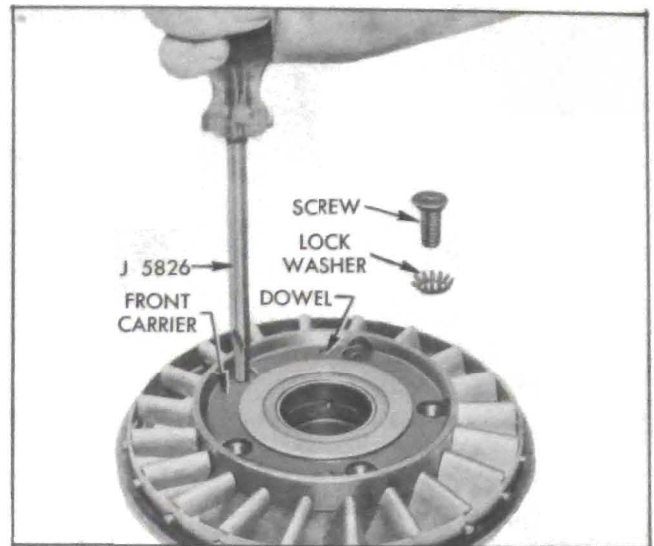

Figure 5-44—Removing Front Carrier Screws
3. Use Screwdriver J 5826 to remove the stator blade front carrier screws and lockwashers, then remove front carrier which is also held to rear carrier by two dowels. See figure 5-44.
6. Place front carrier over rear carrier so that screw holes are aligned when dowels enter their holes, then install screws with counter-sunk external tooth lockwashers. See figure 5-44.